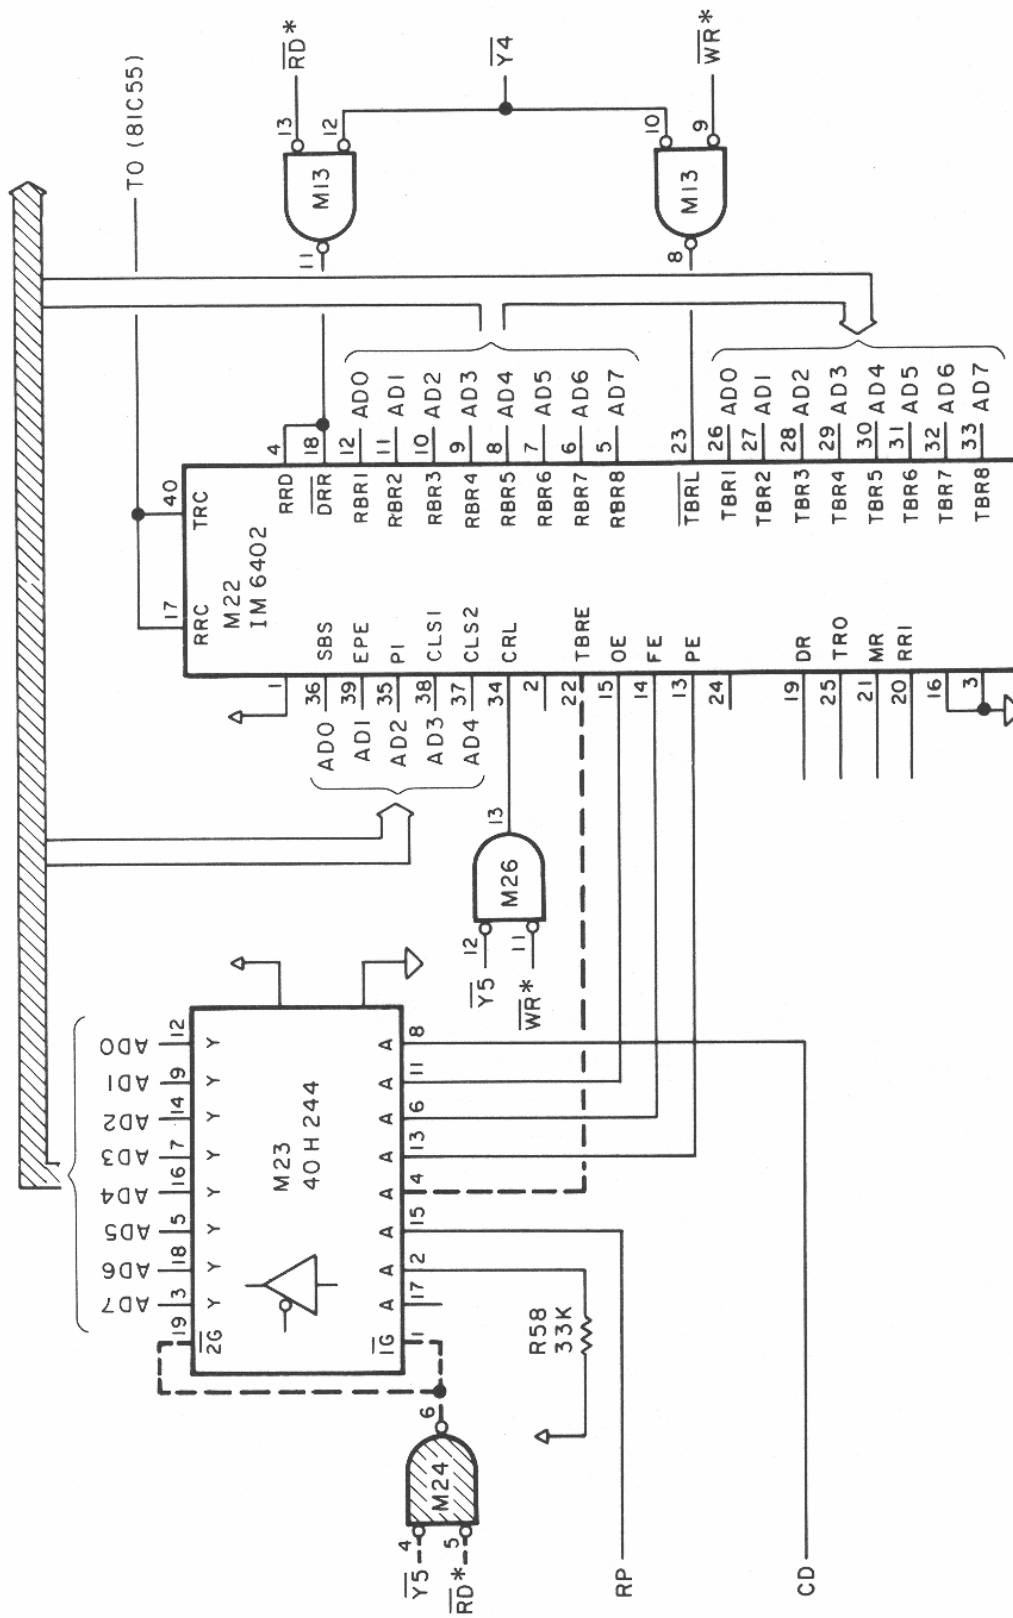

Figure 7.4a. UART data transmission
Before sending a character by way of the UART, the CPU must confirm that any character in the TBR has already been received by the TR. The CPU does this by inspecting the condition of bit 4 of input port D8 (or D0 decimal 208 or 216). That bit carries the UART signal TBRE (transmitter buffer register empty) signal (*see table 7.4*). This is shown schematically in figure 7.4a.
Such errors are known as *overflow errors* (OE), *framing errors* (FE), and *parity errors* (PE), respectively. These signals are made available to the CPU at input port D8 (or D0 decimal 208 or 216); the connection is shown in figure 7.4a. The various bits of the input port are shown in table 7.4. To obtain the UART error, the value returned at the port should be ANDed with 0E.